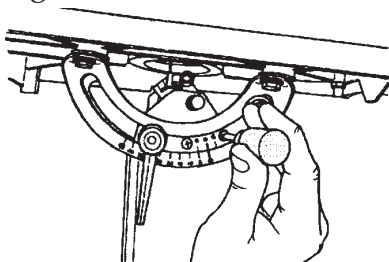

Figure A-24
1. If the "0" marks on the table scale and the Bandsaw's trunnion scale so not align, use a medium Phillips screwdriver to slightly loosen the table scale's screws (32), as shown in Fig. A-24. Align the "0" marks and retighten the screws.